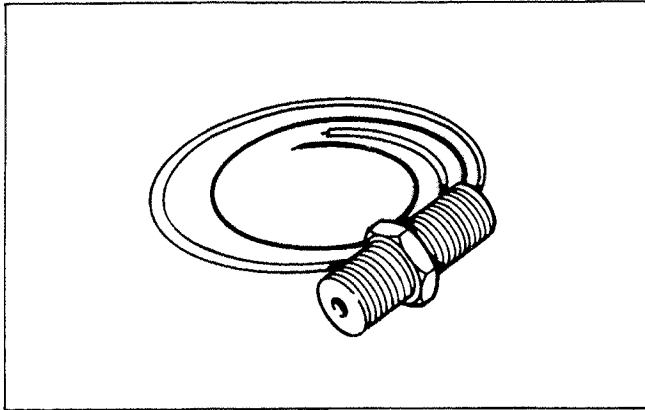
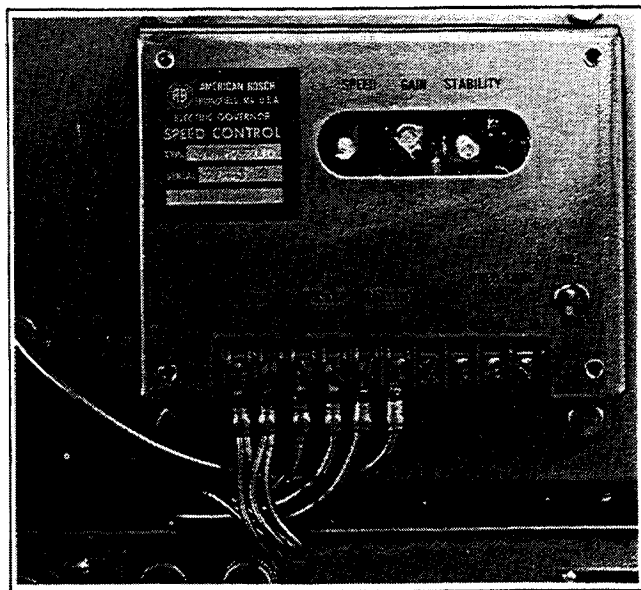
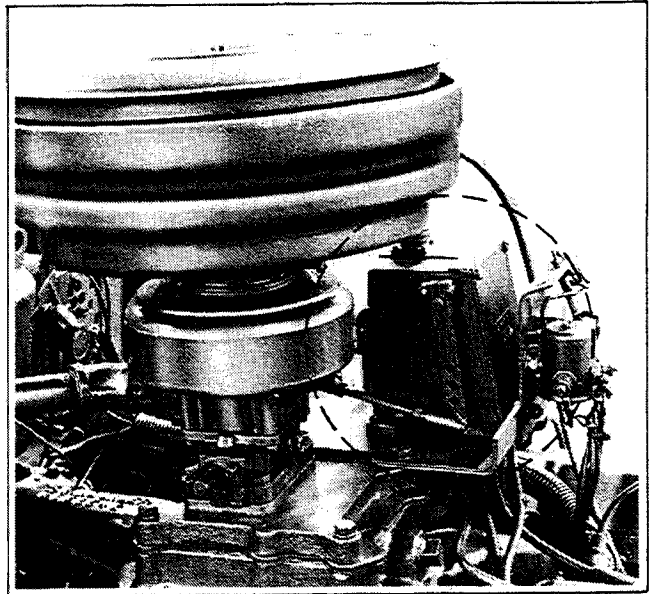

Figure A-5. Magnetic Pickup
Figure A-6. Control Unit
Figure A-7. Throttle Actuator
Some sets are equipped with Bosch Electronic Governors. Since the governor is all electric, no mechanical drive or hydraulic connection is required. The system consists of a magnetic pickup (Figure A-5) to sense engine speed, an electronic control unit (Figure A-6) with stability and gain adjustments to control the current input to the throttle actuator and an actuator (Figure A-7) to position the throttle.
The stability and gain adjustments are located on the control unit (Figure A-6). To adjust governor proceed as follows:
2. Start engine. While observing normal precautions allow the governor to control the engine. If the engine is unstable, turn the gain control counterclockwise until stability is obtained. Adjust speed screw (Figure A-6) to the proper engine speed.